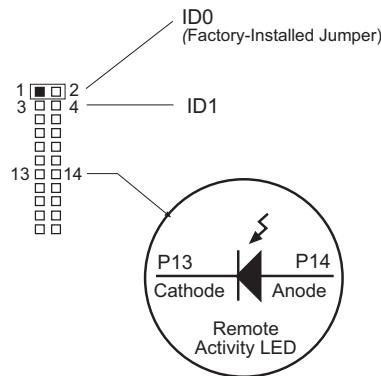

Figure 5B: Enlarged View of the Option Pins
- **Option Pins (W1)** - Refer to Figure 5B.